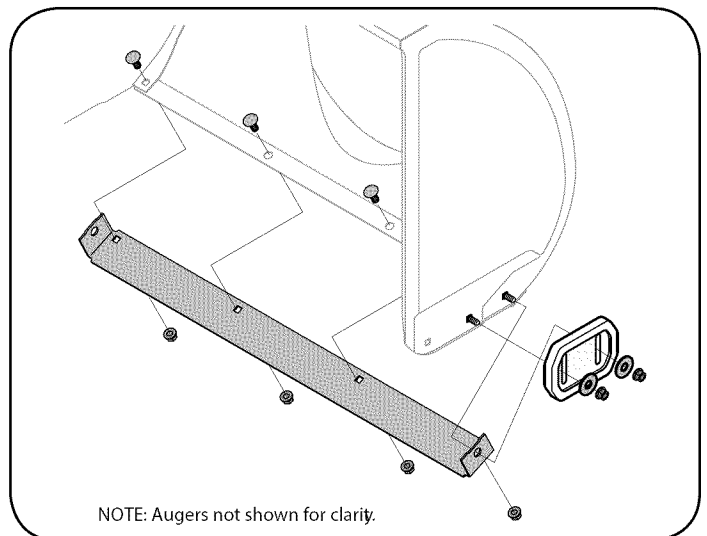

Figure 21
2. Reassemble new skid shoes with the four carriage bolts (two on each side), washers, and hex flange nuts. Refer to Figure 21.
4. Reassemble new shave plate, making sure heads of carriage bolts are to the inside of housing. Tighten securely. See Figure 21.